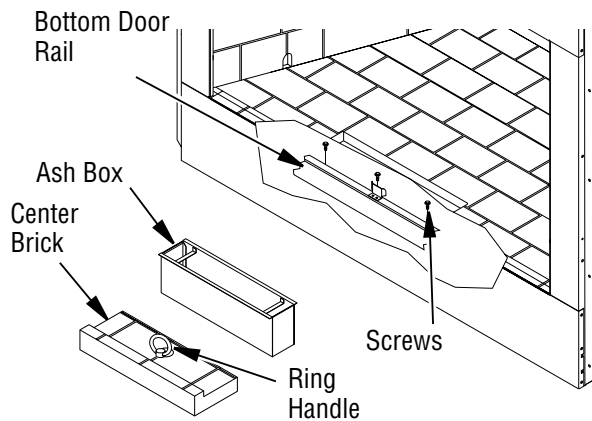

Figure 37 - Installing Bottom Door Frame
3. Remove center ash refractory by pulling ring handle (see Figure 37).
5. Remove three screws located at front of firebox (see Figure 37).